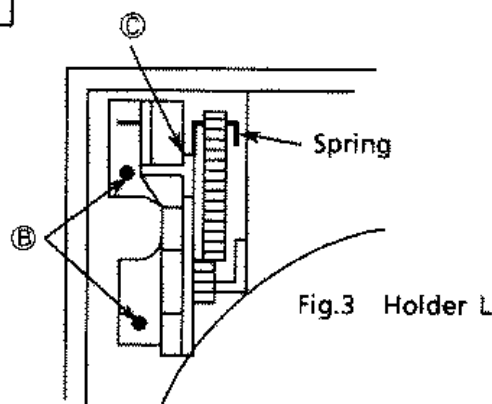

Fig.3 Holder L
■ Holder L (Fig.3)
1. The spring is hung to part ③.
2. Take off 2 screws ②.